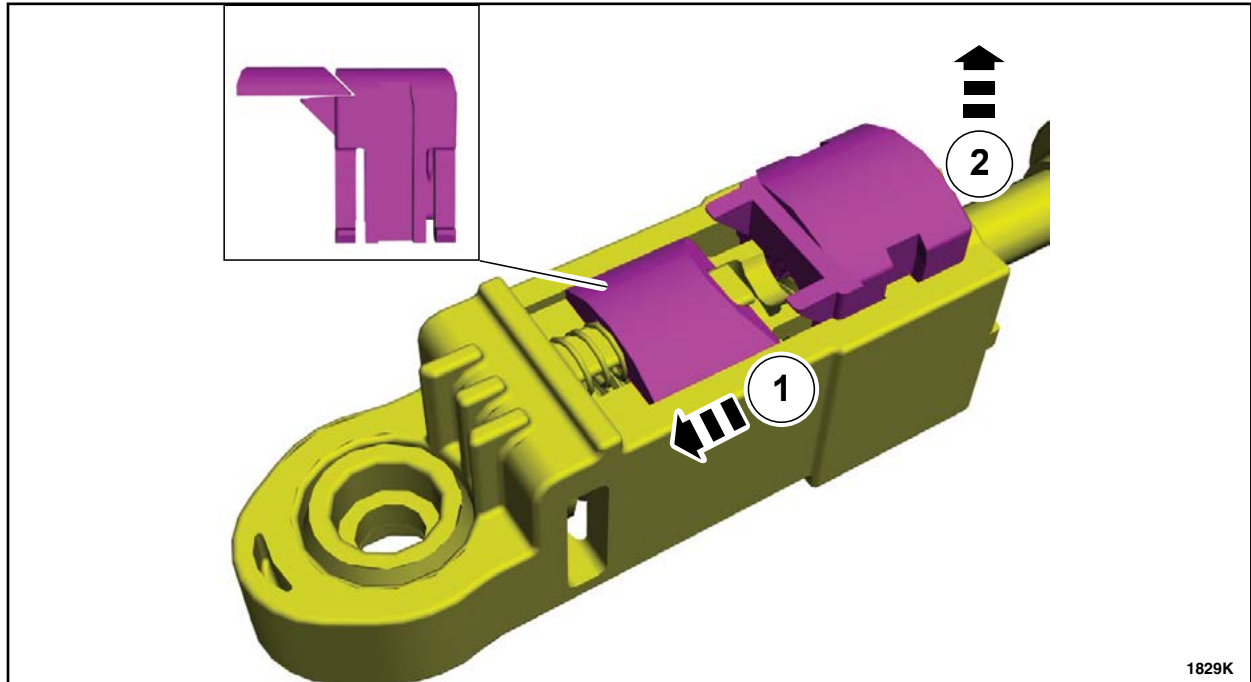

FIGURE 13
13. Release the selector lever cable adjuster lock. See Figure 13.